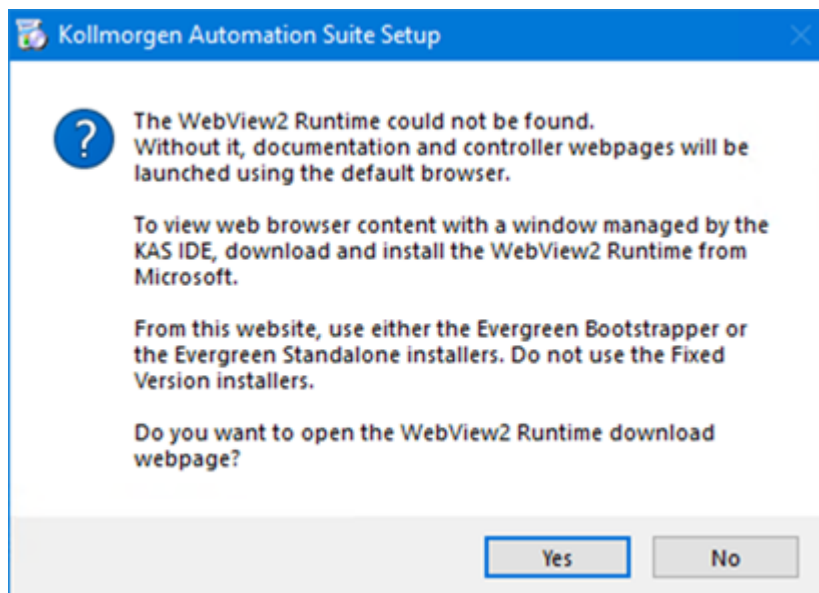

Figure 3-8: WebView2 Confirmation message
- a. If WebView2 is **not** installed, the Figure 3-8 message appears.